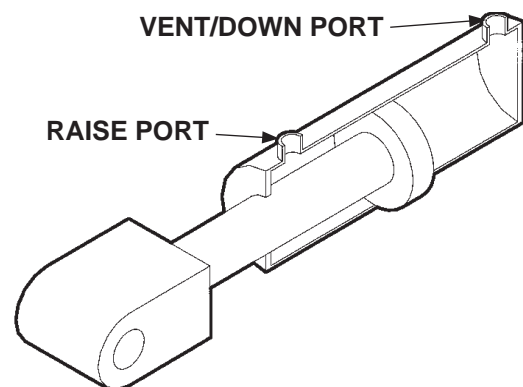

FIG. 67-3
3. Check the hydraulic cylinder. With the platform on the ground, remove the hydraulic line from the vent/down port of the cylinder (**FIG. 67-3**). Raise the platform even with the bed. Allow pump motor to run two seconds more while you watch for hydraulic fluid at the vent/down port. A few drops of hydraulic fluid escaping the vent/down port is normal; however, if it streams from the vent/down port, piston seals are worn. Replace seals.